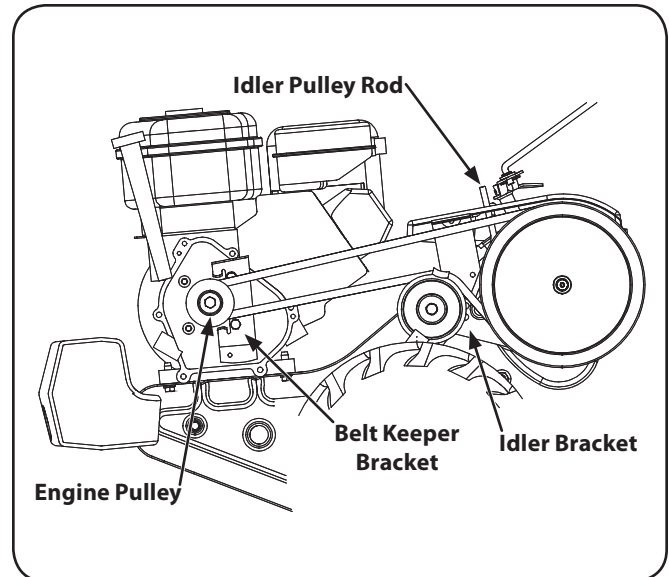

Figure 7-2
4. Remove the belt keeper bracket located behind the engine pulley by removing the two hex bolts and lock washers. See Fig. 7-2.
**NOTE:** Make certain the belt is routed over the idler pulley and inside of the belt keepers by the engine pulley. See Fig. 7-2.